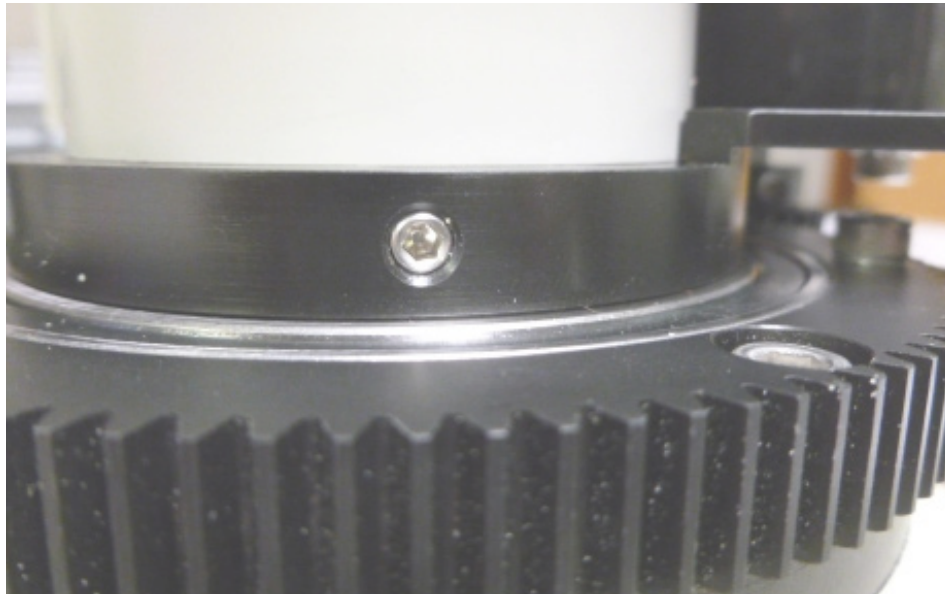

Figure 3
Loosen the four (4) set screws at locations shown **(FIGURE 3)**.